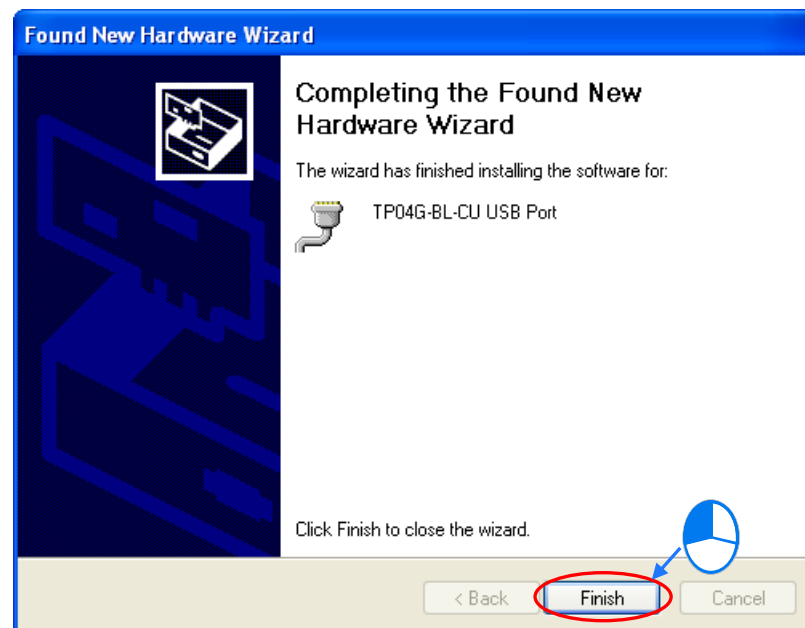

Figure B-5 Process of installing a USB driver
(5) The users have to click **Finish** after the installation finishes, as shown in Figure B-5.